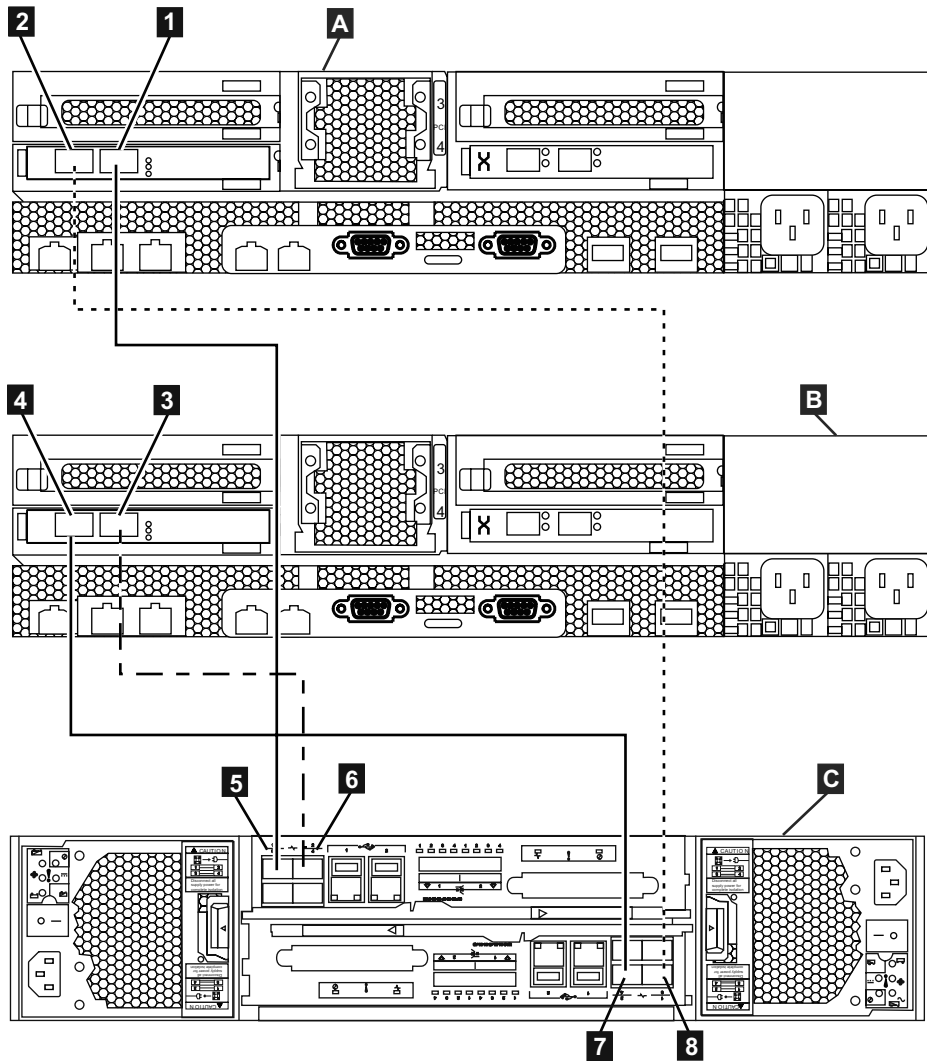

Figure 41. Diagram showing how to connect the file modules to the control enclosure using Fibre Channel cables. Refer to previous table.
- Before continuing, make sure that you have connected the Fibre Channel cabling as shown in Figure 41 on page 54 to ensure proper redundancy. Incorrect cabling may result in a loss of service during system maintenance procedures.